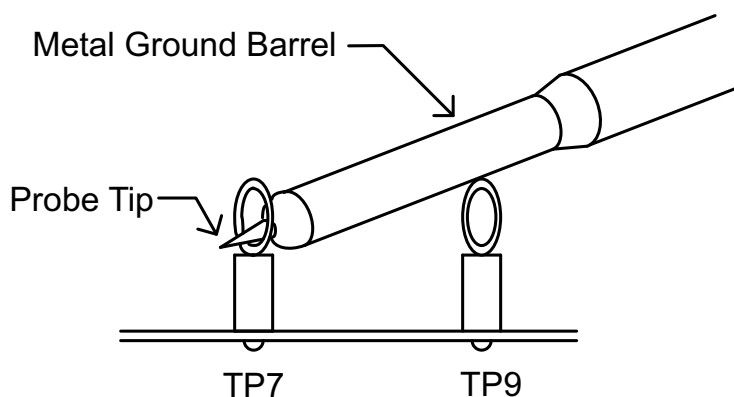

Figure 5-1. Tip and Barrel Measurement for V_{OUT} Ripple
- Oscilloscope** A digital or analog oscilloscope measures the output ripple. The oscilloscope must be set for the following: 1-M Ω impedance, 20-MHz bandwidth, AC coupling, 1- μ s / division horizontal resolution, 20-mV / division vertical resolution. Test points TP7 and TP9 measure the output ripple voltage by placing the oscilloscope probe tip through TP7 and holding the ground barrel on TP9 as shown in Figure 5-1. Using a leaded ground connection can induce additional noise due to the large ground loop.